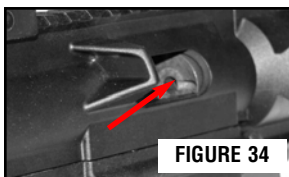

FIGURE 34
- Ensure that the magazine is removed and that the firearm is not loaded (Figure 34) so it will not fire.